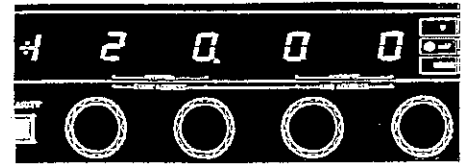

Fig. 7 Setting Output
(5) Output settings
The desired output setting is made by turning the output setting dials (4) (Fig.7). This setting value is shown in the display (5). For all ranges, minimum setting value is 0000 and maximum setting is 12000.